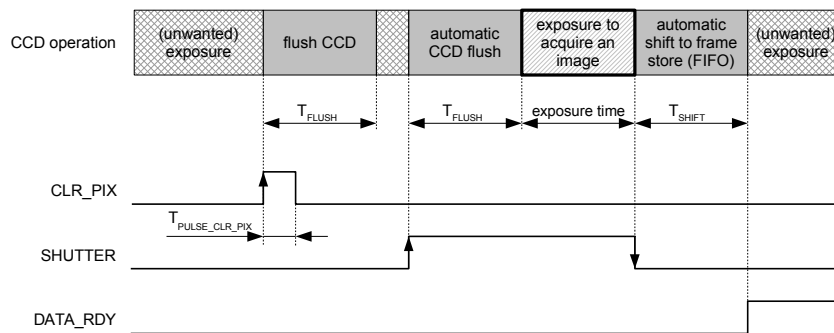
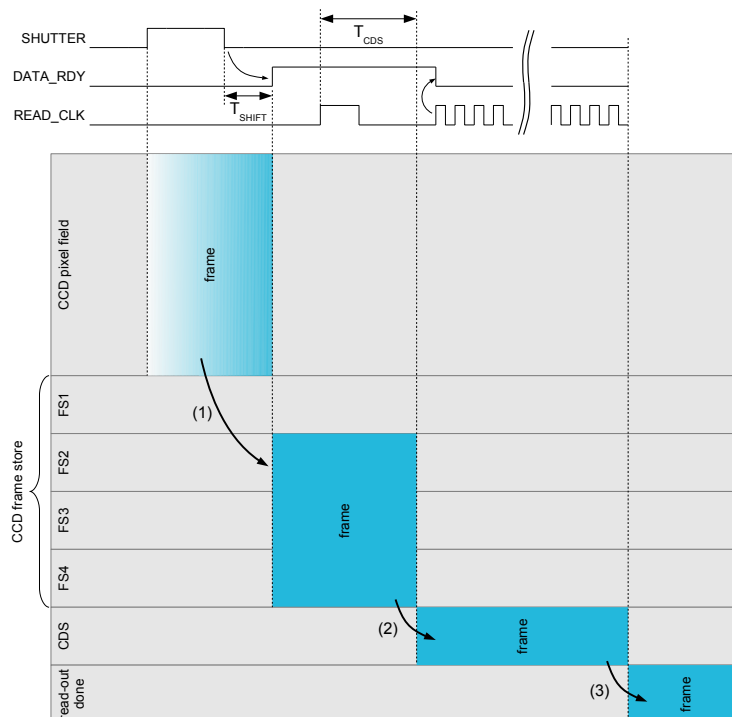
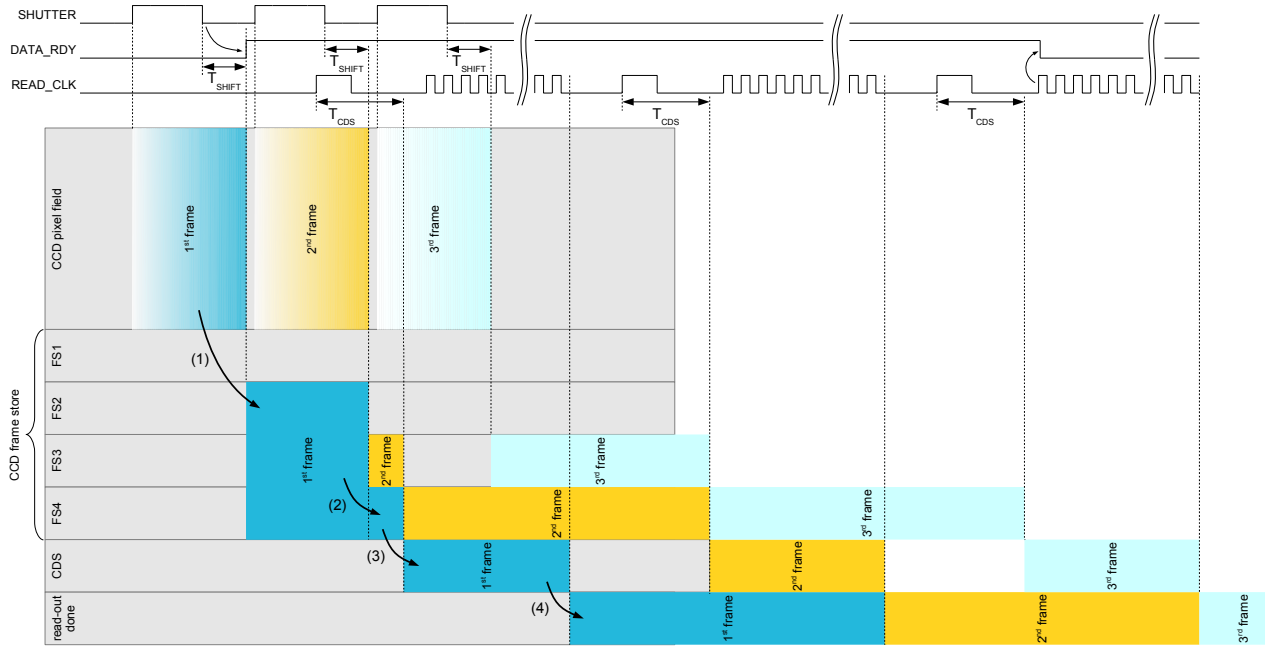
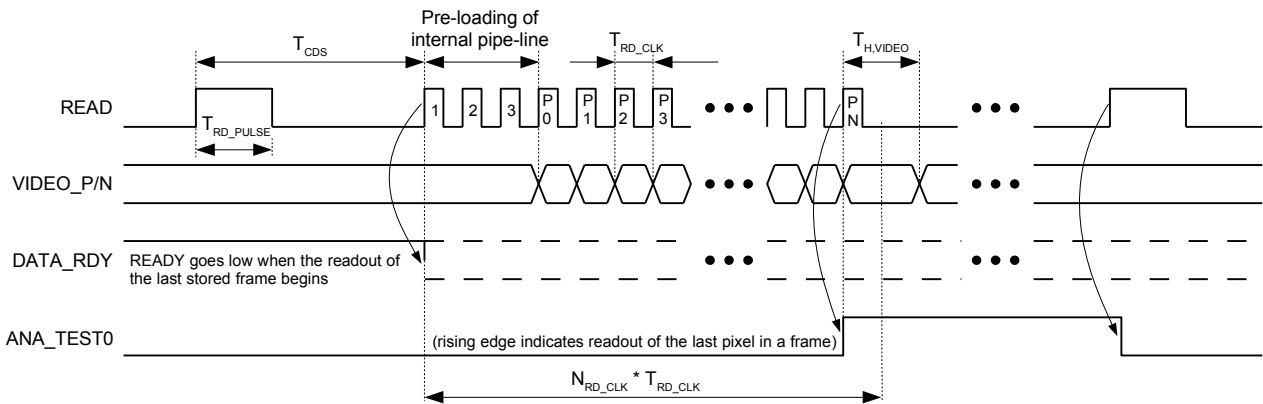

Figure 7: Image acquisition timing
Figure 8: Illustrative example of single-frame acquisition and read-out
Figure 9: Illustrative example of multi-frame acquisition and read-out
Figure 10: Image readout timing of one frame
The acquisition of a frame is controlled by a pulse on pin SHUTTER (see Figure 7). The rising edge of a pulse on SHUTTER triggers the internal flush operation to erase the CCD from any unwanted electrons prior to the exposure. The exposure starts automatically after the flush operation is completed. The CCD collects electrons thereafter as long as the SHUTTER pin is high. Upon the falling edge of SHUTTER, the charge collected in the CCD pixel field is automatically shifted to the CCD frame store which is a photo-insensitive area (see (1) in Figure 8). As soon as the frame is ready for read-out, the signal DATA\_RDY goes high. The image is ready to be readout as described in section 5.4..
Up to 4 images can be acquired and stored in the CCD frame store in a fast sequence without intermediate read-out. The CCD frame store is organized in 4 CCD frame store elements (FS1-FS4), thereby each CCD frame store element can store one frame/image. The first captured image initially occupies 3 frame store elements as for a single-frame acquisition (see section 5.2 and Figure 8). epc901 automatically detects a multi-frame acquisition when detecting the second SHUTTER signal without prior read-out. Upon the second shutter the first image is shifted to a single frame store element (see (2) in Figure 9). The frames are shifted from the CCD pixel field to and through the CCD frame store in a FIFO-manner i.e. the first captured image is the first one read out. The read-out is described in more detail in section 5.4. As soon as 4 frames have been captured without prior read-out, at least one read-out has to be issued prior the next shutter in order to make FS1 available again. Excessive shutter pulses are ignored.
according to the specified conversion gain (CG). This operation is called correlated double-sampling (CDS) and lasts for the time  $T_{CDS}$  (refer also to the block diagram in Figure 3 or Table 10). Following the Read Pulse, respecting a delay of at least  $T_{CDS}$ , Read Clock pulses are applied to the READ pin in order to transfer the pixel voltages to the VIDEO\_P/N pins. The first 3 Read Clock pulses, designated with 1, 2 and 3 in Figure 10, are used to pre-load the pipeline. Thus the first 3 pixel voltage values on VIDEO\_P/N can be ignored. The subsequent Read Clock pulses, designated with P0 ... PN in Figure 10, transfer the pixel voltage values through the video amplifier to the VIDEO\_P/N pins.
The signal DATA\_RDY remains high as long as there is at least one frame stored in the CCD frame store. If no more frames are stored except the one that is currently read out, the signal DATA\_RDY goes to low state on the first positive Read Clock edge (see Figure 10). If no frame is stored, the chip does nothing upon a Read Pulse.
- The following time periods shall never overlap in any multi frame acquisition or by parallel reading during exposure:  $T_{FLUSH}$  with  $T_{CDS}$  and  $T_{SHIFT}$  with  $T_{CDS}$ . Refer for these signal to Figure 7 and Figure 10.